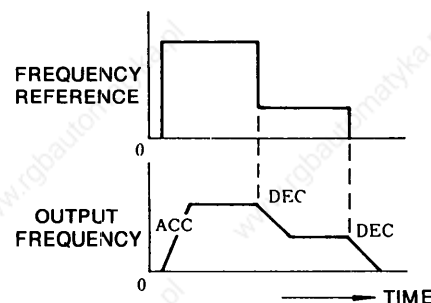

Fig 4 Accel/Decel Time Setting
- (4) Acceleration and deceleration time setting circuit: Smoothly changes the output frequency upon a rapid change of the frequency reference signal. Acceleration and deceleration times can be independently set by the acceleration (ACC) and deceleration (DEC) time setting potentiometers (Fig. 4).
- (5) Stall prevention circuit